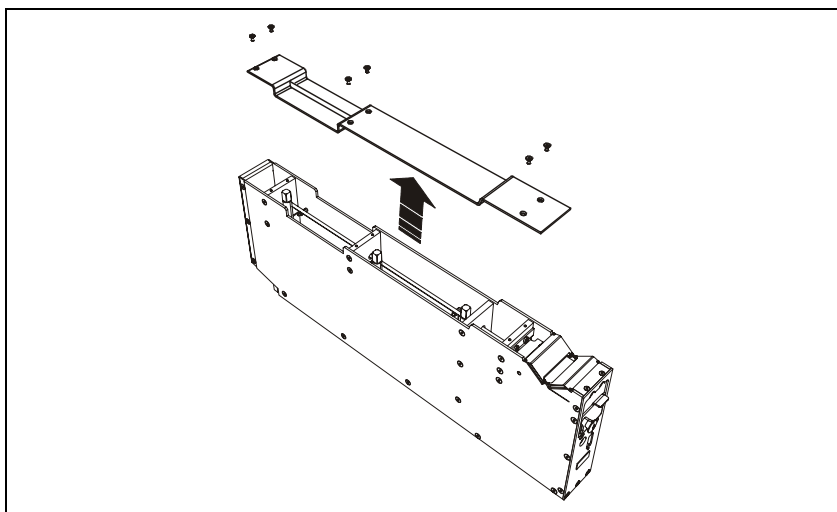

Figure 5-11. Remove camera lid
4. Loosen the lid of the camera box and remove it (e.g. with a magnet). See Figure 5-11.